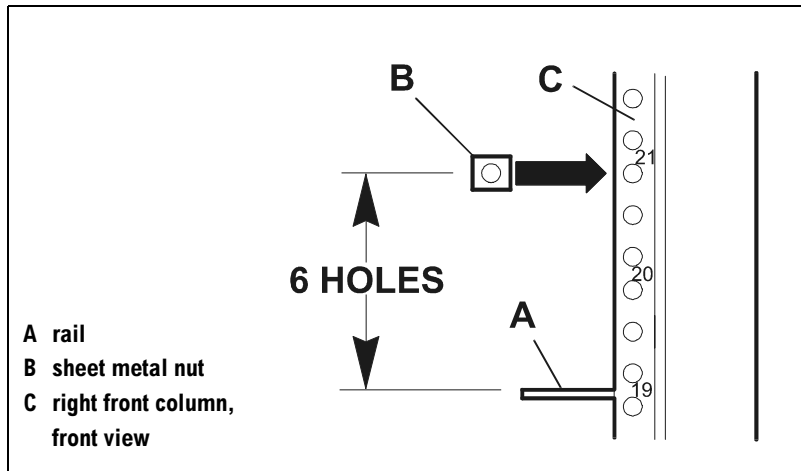

Figure 21 Rack Front Preparation: EIA Unit Rail Position
- If the bottom of the rail (A in Figure 21) is at the EIA Unit number, count six holes up and install the sheet metal nut.